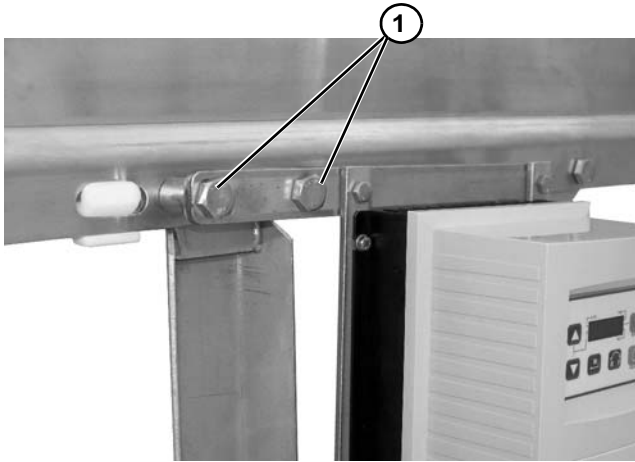

Figure 9
- Install assembly to conveyor at stand location. Remove stand screws and replace with new screws (Figure 9, item 1).